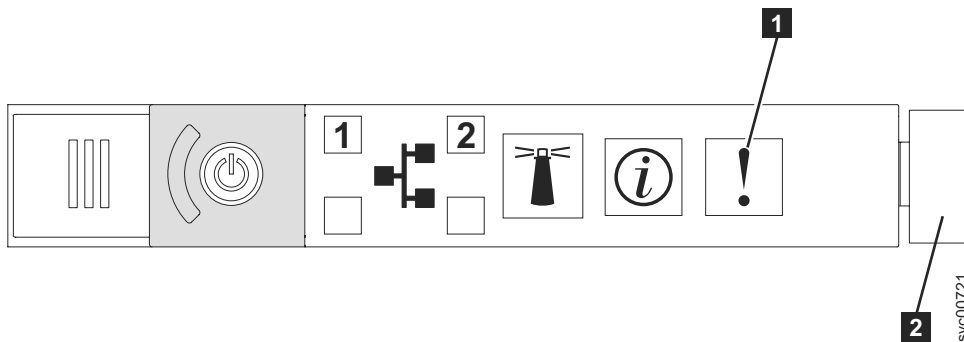

Figure 90. SAN Volume Controller 2145-CG8 or 2145-CF8 operator-information panel
- | 1. **Is the Error LED, shown in Figure 90 on page 247, on the SAN Volume Controller 2145-CG8 operator-information panel on or flashing?**